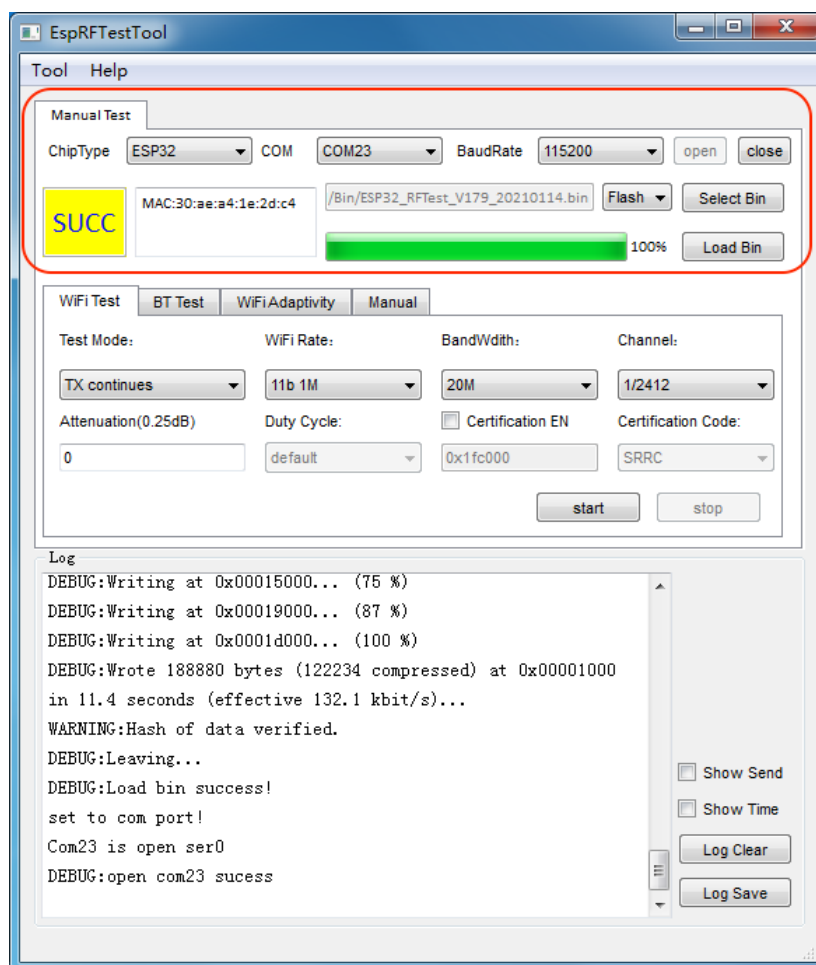

Figure 1-2. Download Test Bin for ESP32
- Click on the **Load bin** button and **SUCC** will show once the download succeeds. Figure 1-2 shows the interface of downloading test bin for ESP32